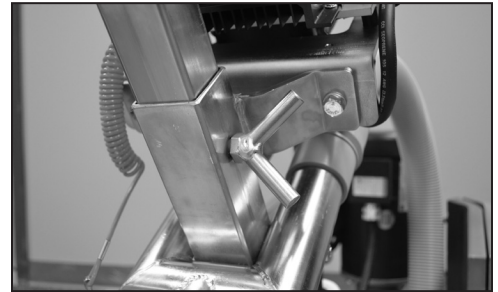

FIG. 1
1. Loosen the handle bolt and adjust the handle to the desired length (Figure 1); re-tighten bolt.